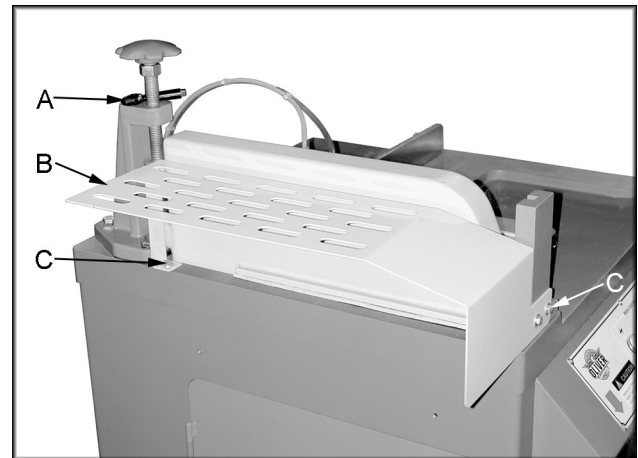

Figure 1
**Note:** There is a key (A, Figure 1) attached just below the knob that is used to open the door on the front of the cabinet.
1. Mount the guard (B, Figure 1) to the saw with three hex cap bolts and three flat washers (C, Figure 1).